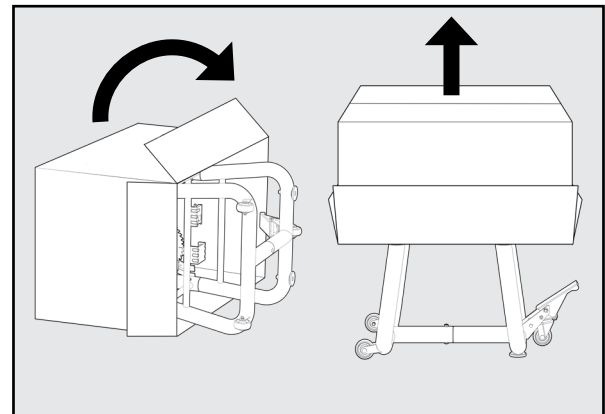

Figure 4
3. Carefully stand the box right side up and remove packaging once the machine has been lifted from the ground. See Figure 4.